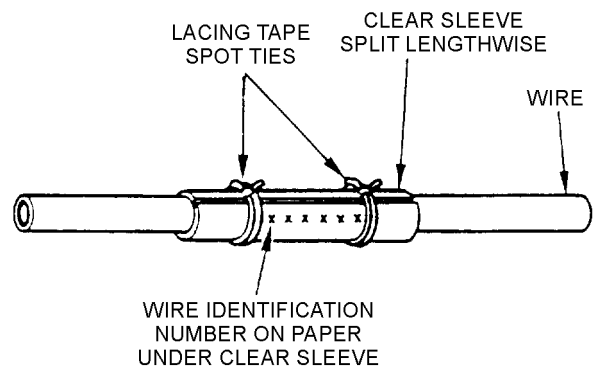

Figure 29. Temporary Wire Identification Marker
91. A temporary wire marking procedure may be used only with approval of the authorized maintenance department head (Figure 29)